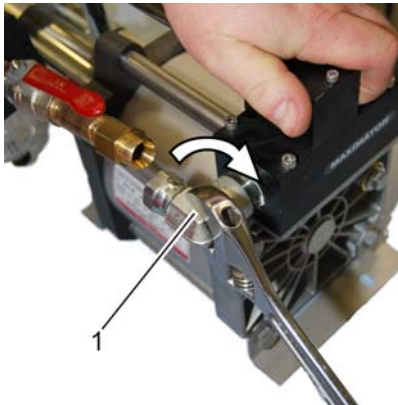

Fig. 39: Removing the elbow union
- 14.** ▶ Position and fasten elbow union (Fig. 39/1) of compressed air control unit to drive air connection of control valve housing.